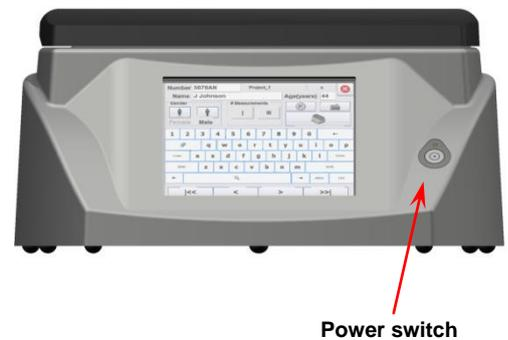

Figure 4. Diab-spot front side with power switch
4. The Diab-spot can now be turned on by the power button located on the label on the front side of the Diab-spot (figure 4). A green LED above the button will light up if the device is in its 'power on' state.
Turn the Diab-spot on by pressing the 'power button' located on the label on the front side of the Diab-spot (figure 4). A green LED above the button will light up if the device is in its 'power on' state.